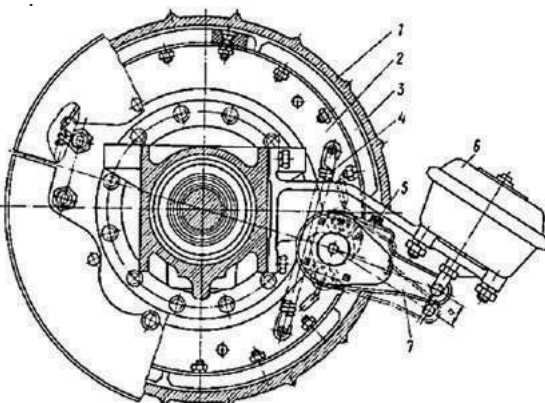

Fig. 146
- b) Depress the brake pedal and check the travel of brake chamber stems 6 (Fig. 146). Stem travel shall be within 30-45 mm, travel difference between the right-hand and left-hand stems shall not exceed 7 mm.